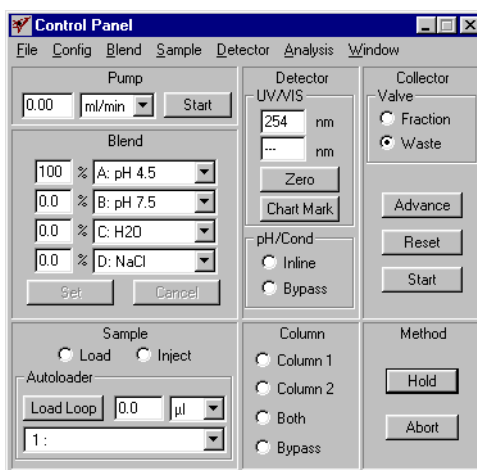

Figure 2-7 BioCAD Control Panel
The Control Panel (Figure 2-7) is displayed.
5. When Windows Desktop is displayed, double-click the **BioCAD icon** (see Figure 2-7) to start the BioCAD software.